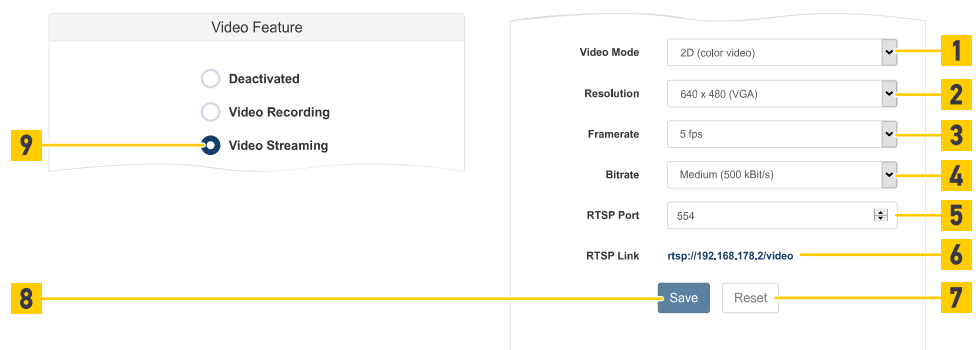

Fig. 110: Video Feature - Video Streaming
To activate Video Streaming select the mode Video Streaming (Fig. 110 /9).
- Choose a Video mode (Fig. 110 /1) from the drop down list. 2D (color video) and 3D (disparity image) is possible.
- Choose a Resolution (Fig. 110 /2) from the drop down list. 320x240 (QVGA) and 640x480 (VGA) is possible.
- Choose a Frame rate (Fig. 110 /3) from the drop down list. 5 or 10 frames per seconds is possible.
- Choose a Bitrate (Fig. 110 /4) from the drop down list.
- Set up the RTSP port (Fig. 110 /5).
- See the complete link (Fig. 110 /6) to connect for streaming.
- To go back to the last saved settings click the Reset button (Fig. 110 /7).
- To save all the settings in the device click the Save button (Fig. 110 /8).